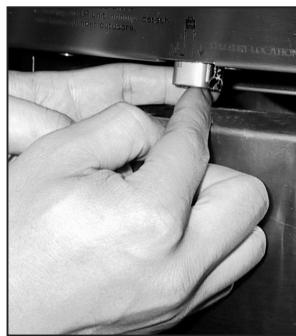

FIG. 32
4. Re-install upward and push to snap - Fig. 32.